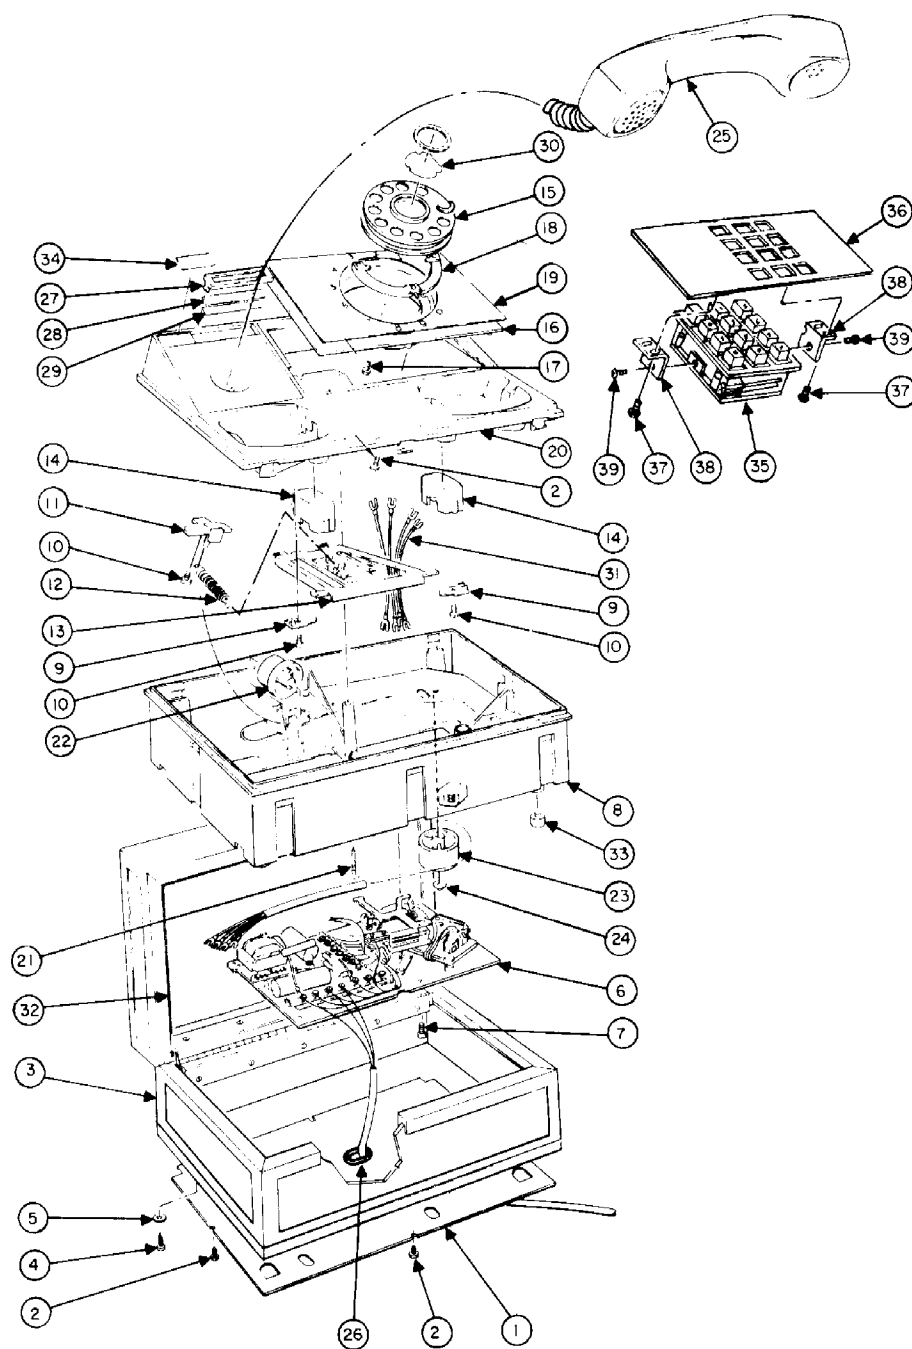

Figure 4. Chestphone.
- 5.10 If the Chestphone is equipped with a dial, assemble the dial assembly as follows (see Figure 4):
- (a) Attach a number insert (19) to the dial support plate (16).
- (b) Place the dial spacer (18) and dial (15) into the dial support plate (16), and secure with three screws (2).
- (c) Insert the dial support plate (16) into the base cover (20) and secure with three screws (2).